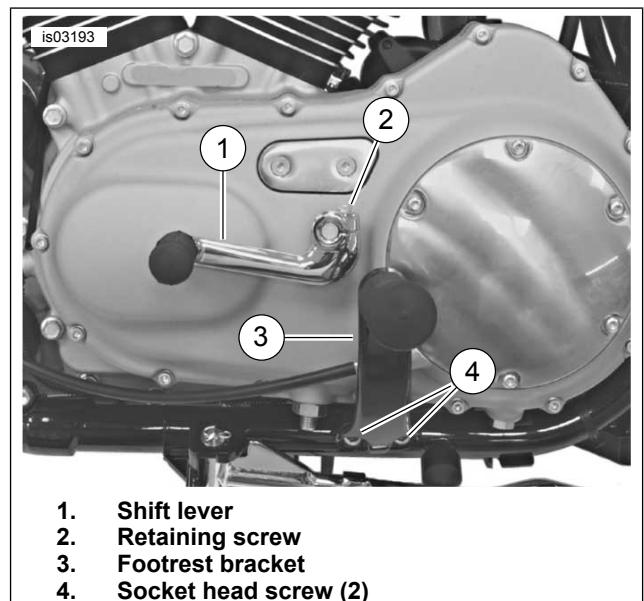
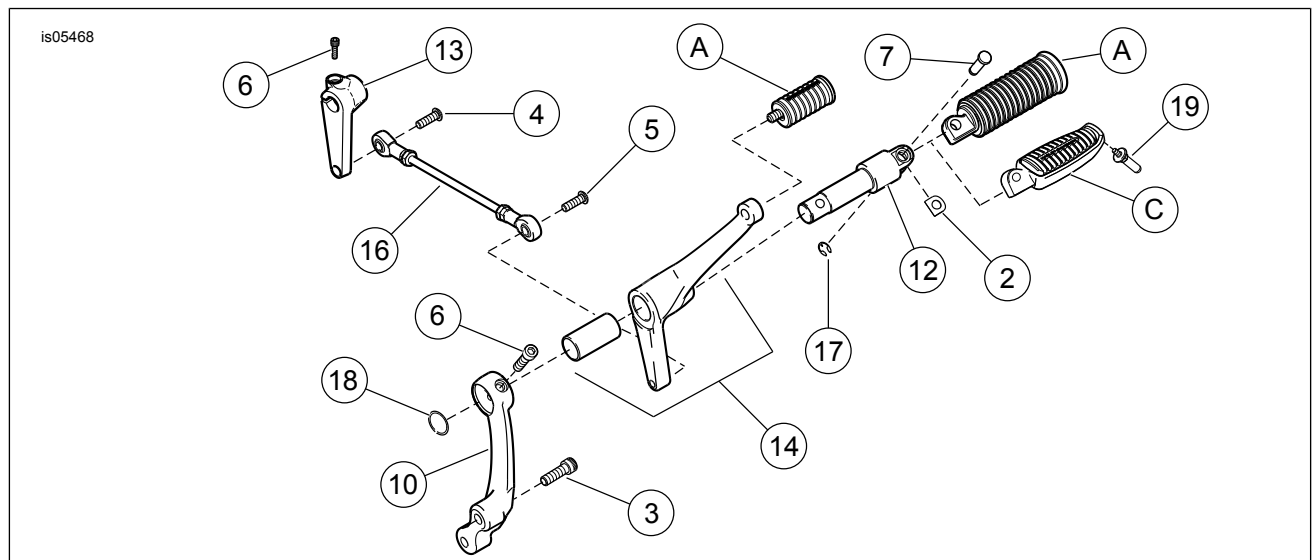
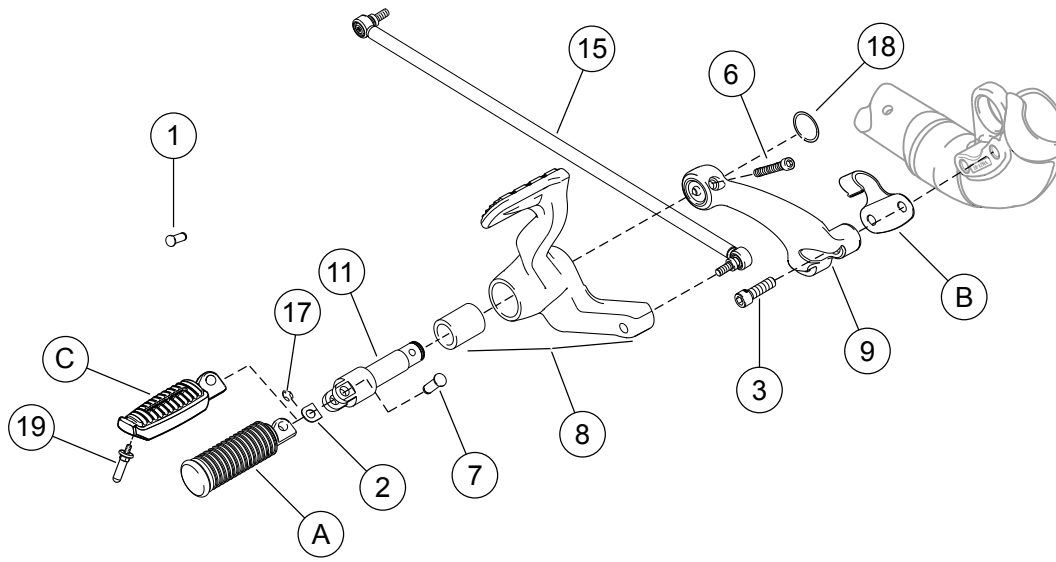

Figure 1. Remove Shift Lever and Footrest
Figure 6. Service Parts: Forward Control, Left (Shift) Side
Figure 7. Service Parts: Forward Control, Right (Brake) Side
See Figure 6, Figure 7 and Table 1.
1. See Figure 1. Loosen the shift lever retaining screw (2) securing the shift lever (1) to the shifter shaft. Slide the shift lever off the splined shaft. Remove shifter peg from lever and save for installation. Discard shift lever.
2. Remove the two socket head screws (4) securing the footrest bracket (3) to the frame and remove footrest. Discard screws.
3. See Figure 7. Firmly press hole plugs (1) into frame screw holes remaining from footrest removal.
2. Remove the exhaust to access the brake rod (4). Follow the instructions in the service manual.
3. Remove brake rod (4) from brake pedal and master cylinder bell crank. Discard brake rod.
4. Remove the two screws (5) and right footrest/brake pedal support bracket with attached brake assembly from frame. Discard footrest support bracket and entire brake pedal assembly.
5. See Figure 6 and Figure 7. Install hole plugs (1) in holes left from support bracket removal.
1. See Figure 6 and Figure 7. At the lower front of the right frame downtube, remove the two screws securing the J-clip (B) to the frame. Discard the screws but save J-clip for installation.
1. See Figure 6. Obtain shift link arm (13) and screw (6) from kit. Orient shift link arm pointing straight down and slide onto shift shaft (exiting engine side cover). Install screw (6) and tighten to 11–18 N·m (96–156 in-lbs).
2. Mount footrest/shift pedal support bracket (10) to frame using screws (3). Tighten to 61.1–67.9 N·m (45–50 ft-lbs).
- Slide shift pedal (14) onto clevis (12). Mount clevis on footrest/shift pedal support bracket (10). Align hole in clevis with hole in support bracket and secure using screw (6). Tighten screw to 24.4–29.9 N·m (18–22 ft-lbs).
- Install retaining ring (18) to the relief at the end of the clevis (12) to further secure it in place.
- Install screw (4) in far end of the shift rod (16) and into shifter arm (13). Tighten to 13.6–20.3 N·m (120–180 in-lbs).
- Install screw (5) in opposite end of shift rod (16) into shift lever (14). Tighten to 13.6–20.3 N·m (120–180 in-lbs).